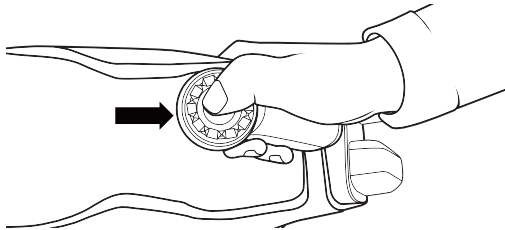

Fig. 7
- b. Press the Max speed button and hold it to increase the air speed instantly to maximum as needed. Release the button when done. (Fig. 7)